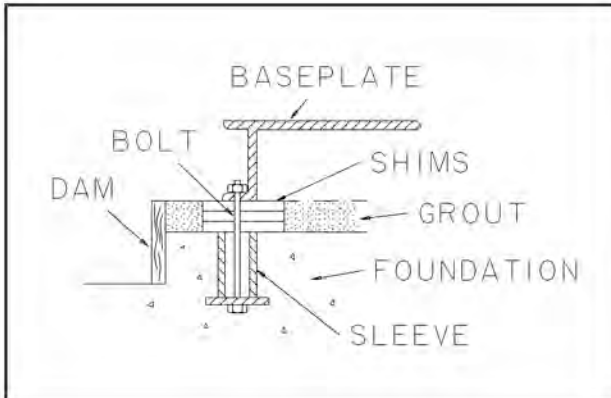

Figure 10:
2. Build dam around foundation. Thoroughly wet foundation (Fig. 10).